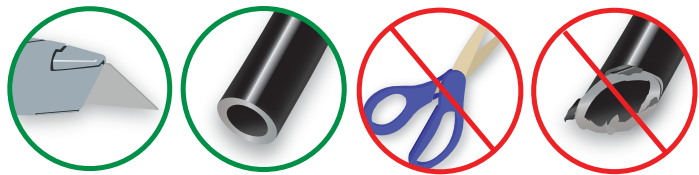

fig. 20
1. Cut the air line in half. Make clean, square cuts with a razor blade or hose cutter (Fig. 20). Do not use scissors or wire cutters.